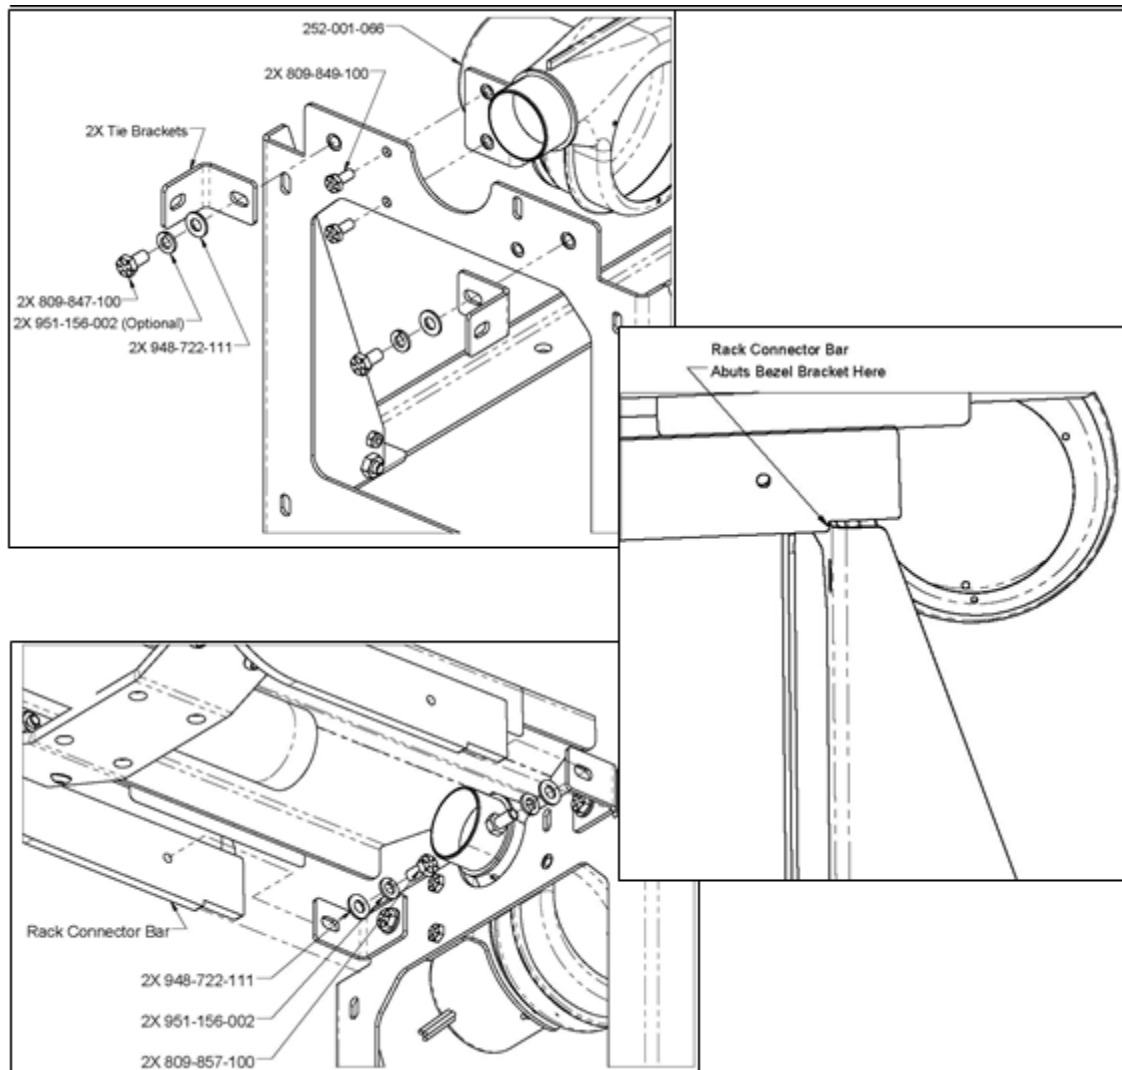

Figure 16 - Rack to Ball Lift Attachment
5. It is recommended that two people upright the rack and carefully place it into position on the approach and the bezel support bracket. The notch in the rack bar connectors should rest on the edge of the corner notch of the bezel support bracket. Push toward the lift until the notch of the connector bar comes in contact with the face of the bezel support bracket as shown in Figure 16.
6. Loosen the screws holding the tie brackets and install two (2) additional screws through the tie brackets and into the rack connector bars. Leave all four (4) screws slightly snug for adjustment.